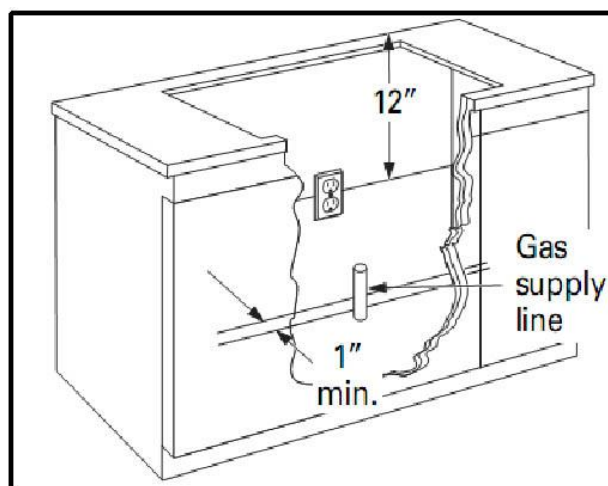

Figure 7
- Gas supply should be located near the opening for this cooktop and be a minimum of 1" from the back wall (see Figure 7). This cooktop is set for natural gas and is designed to operate at 5" water column pressure. The regulator is required to provide a minimum of 6" water column to a maximum of 14" water column to the cooktop regulator.